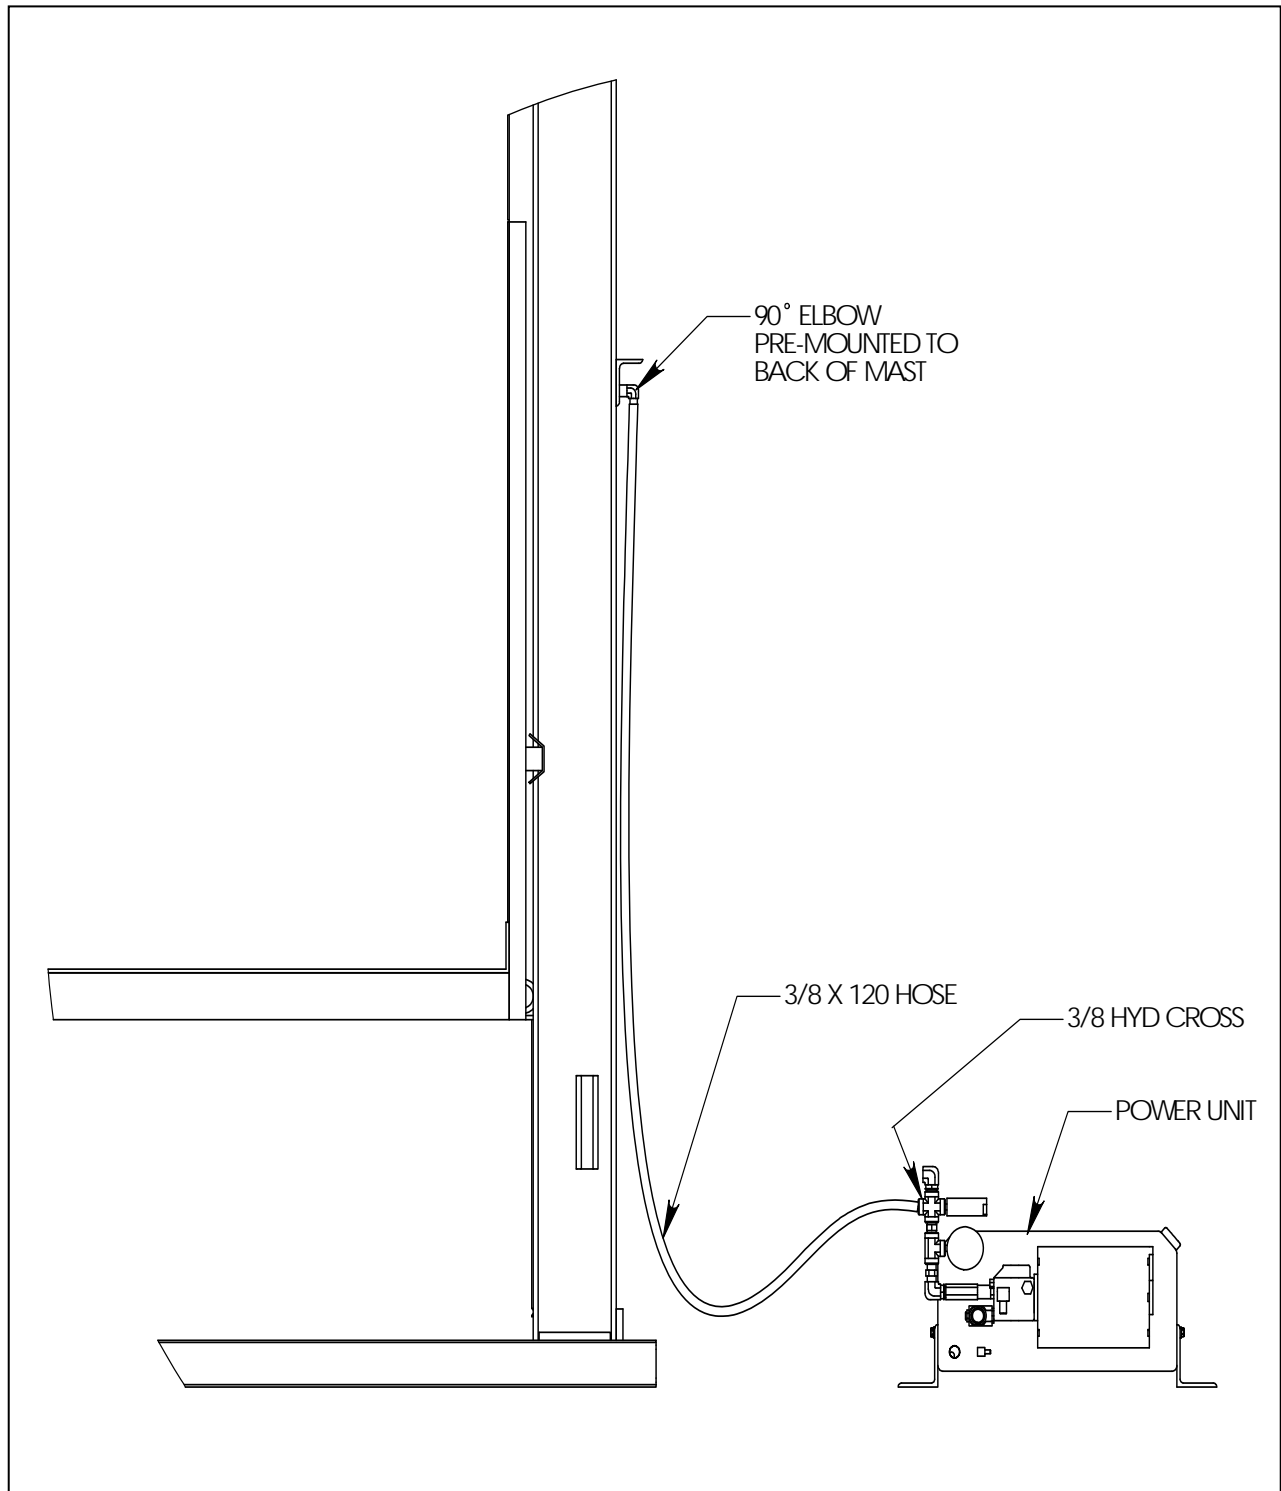

Figure 20 Hydraulic Hook-Up Detail
3. Attach the hose from the power unit to the coupling on the back of the mast (Reference **Figure 20**).